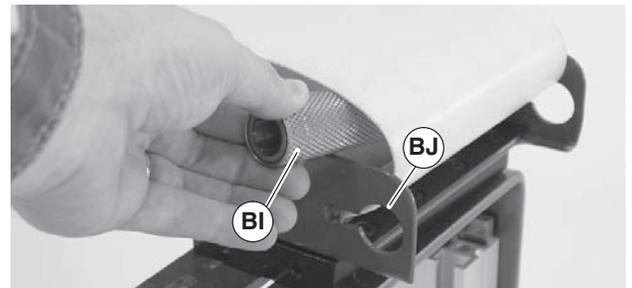

Figure 38
1. Insert pulley (Figure 38, item BI) inside belt loop.